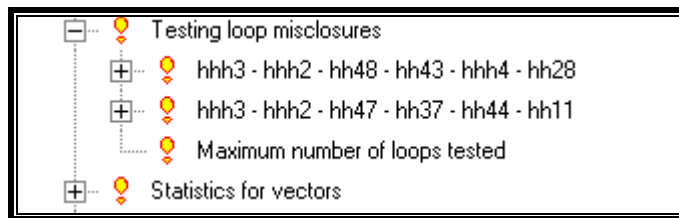
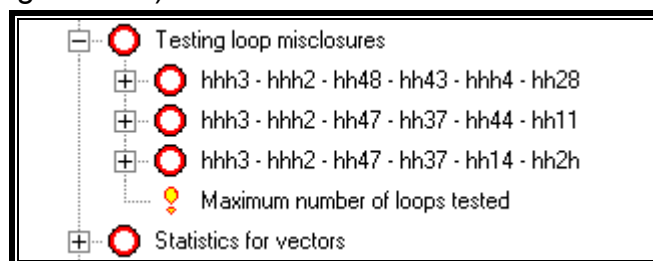

Figure 2-16
Figure 2-18
If the **Show All Results** checkbox is unchecked, Pinnacle 1.0 will report only the bad loops detected when analysing the first  $N$  loops (see Figure 2-16).
- The **Break on bad results** checkbox indicates what will occur if the *Loop Misclosure...* test is not passed. If this checkbox is checked and the test fails to meet the specified tolerances, the program will interrupt further adjustment. If this checkbox is unchecked, the program will continue the adjustment even if the test fails. Note that if the **Break on bad results** checkbox is selected, the warning icon  will be replaced with the error icon  in the 'Testing loop misclosures' tree (compare Figure 2-16 with Figure 2-18)